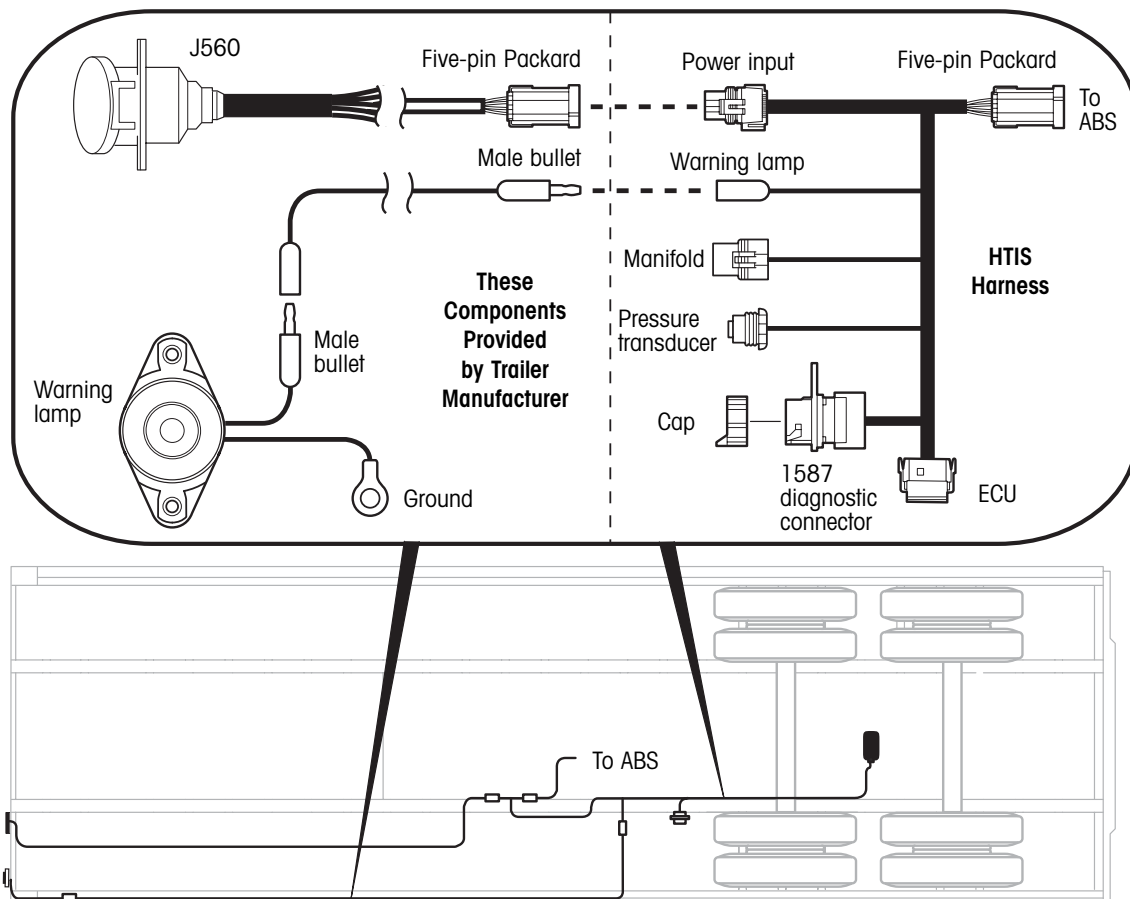

Figure 18. Trailer wiring harness installation
1. Plug the power input connector on the HTIS harness into the five-pin Packard connector coming from the J560 interface (figure 18).